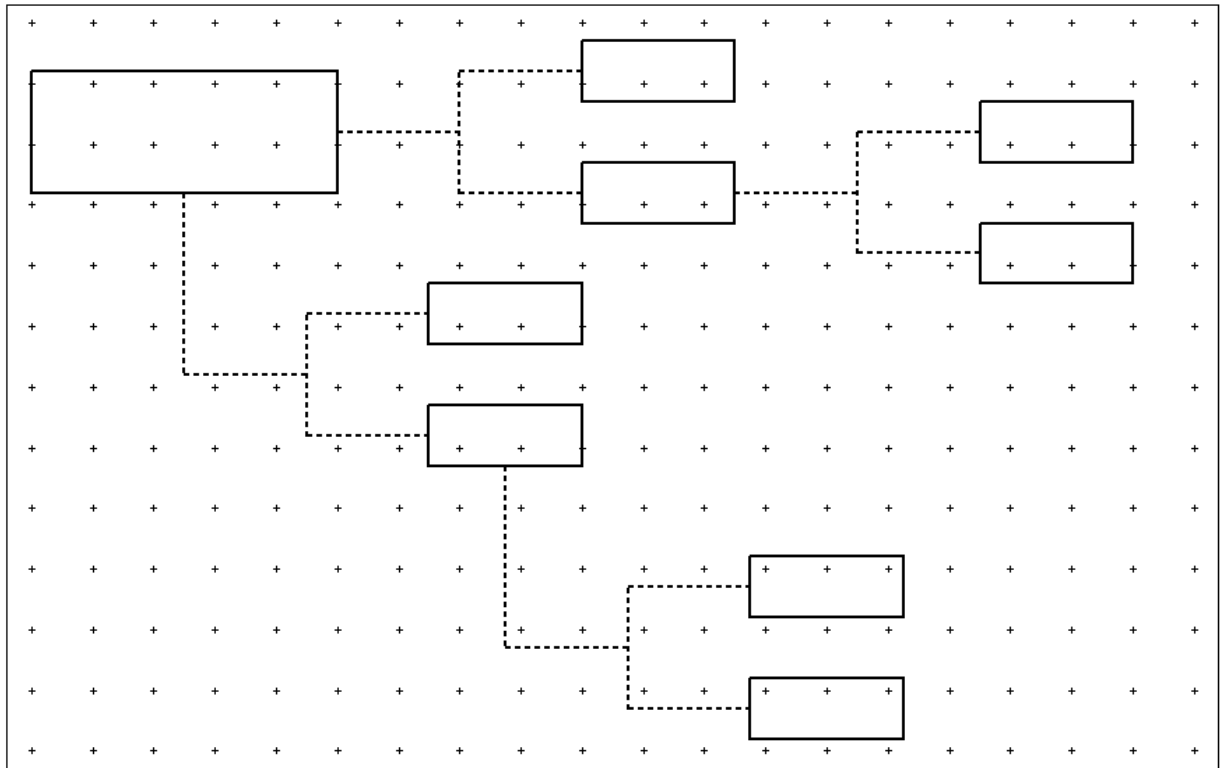

Figure 3-Lab 3
4. Draw figure 3-lab 3. Use PLACE BLOCK, PLACE LINE, and COPY ELEMENT commands. Use the PRIMARY TOOLS menu for different line style and weight. Make these whatever sizes you prefer.
5. **PARTIAL DELETE** the copied lines as shown in Figure 3-lab 6, then **EXTEND LINES TO INTERSECTION**.